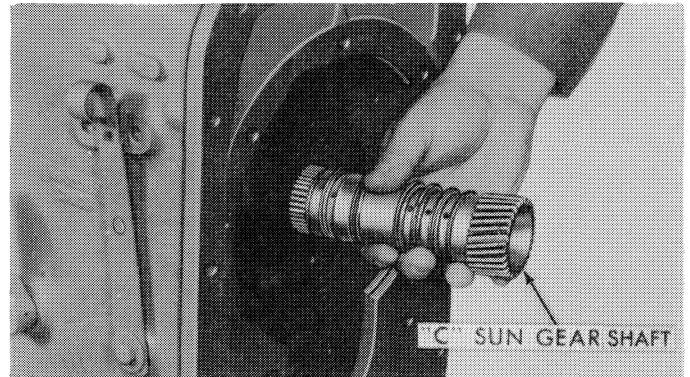

Figure 46
7. Remove the "C" sun gear as shown in Figure 46.